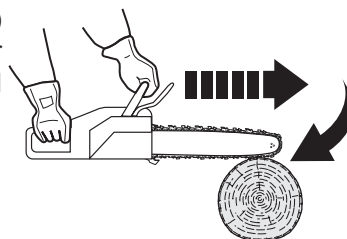

Fig. 35
- > Pinching of the saw chain (3) along the bottom of the guide bar (4) may pull the product forward away from the operator (Fig. 35).